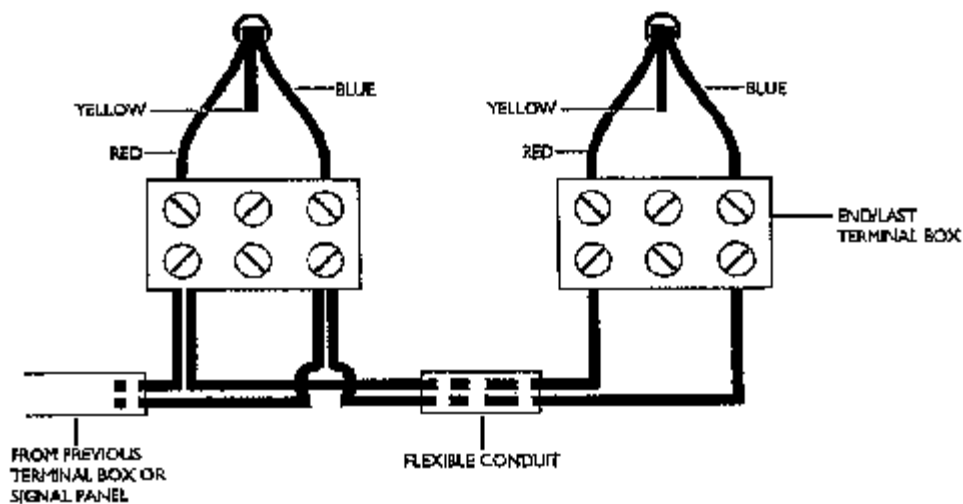

Figure 3-4 Electrical Installation - PARALLEL
If the microswitch contacts are to be wired in the NORMALLY OPEN (N/O) position, i.e. in PARALLEL, carry out the procedure in steps (v) through (viii) and see Figure 3-4.
- (vi) Thread the two core cable through the flexible conduit and connect to the terminal box as shown in Figure 3-4. Where two wires are to be connected into same terminal outlet, use an insulated blade terminal connector.